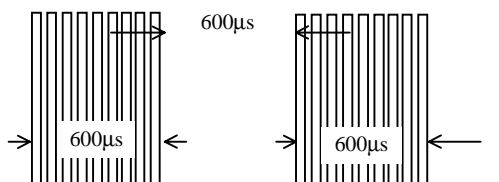

Fig 1. Burst Wave
- (1) Measuring placeIndoor without extreme reflection of light.
- (2) Ambient light source... Detecting surface illumination shall be 200±50Lux under ordinary white fluorescence lamp of no high frequency lighting.
- (3) Standard transmitter ... Burst wave indicated in Fig 1. of standard transmitter shall be arranged to 50mVp-p under the measuring circuit specified in Fig 2.